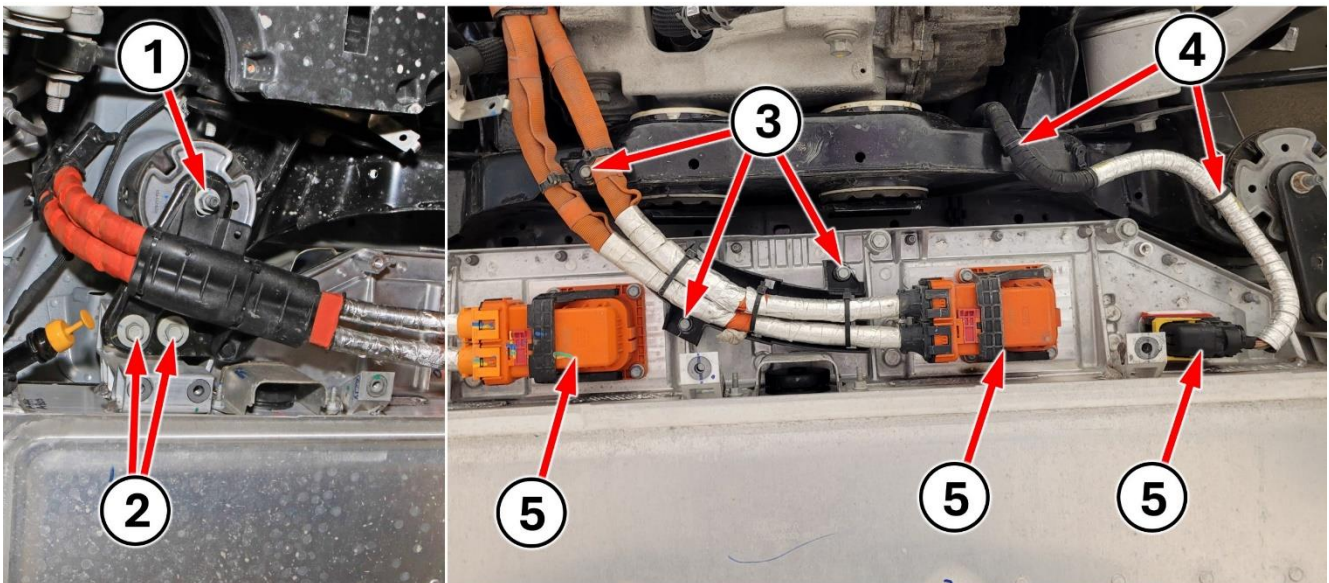

Figure 19 – High Voltage Battery Rear Electrical Connections
43. Remove the cradle mount bracket nut (1) (Figure 19).
44. Remove the cradle mount bracket bolts (2) (Figure 19).
45. Remove the wire harness retainer bolts (3) (Figure 19).
46. Release the wire harness retainer push pins (4) (Figure 19).
47. Disconnect the wire harness electrical connectors (5) (Figure 19).
48. Lower the cradle mount bracket along with the left electrical harness (Figure 19).